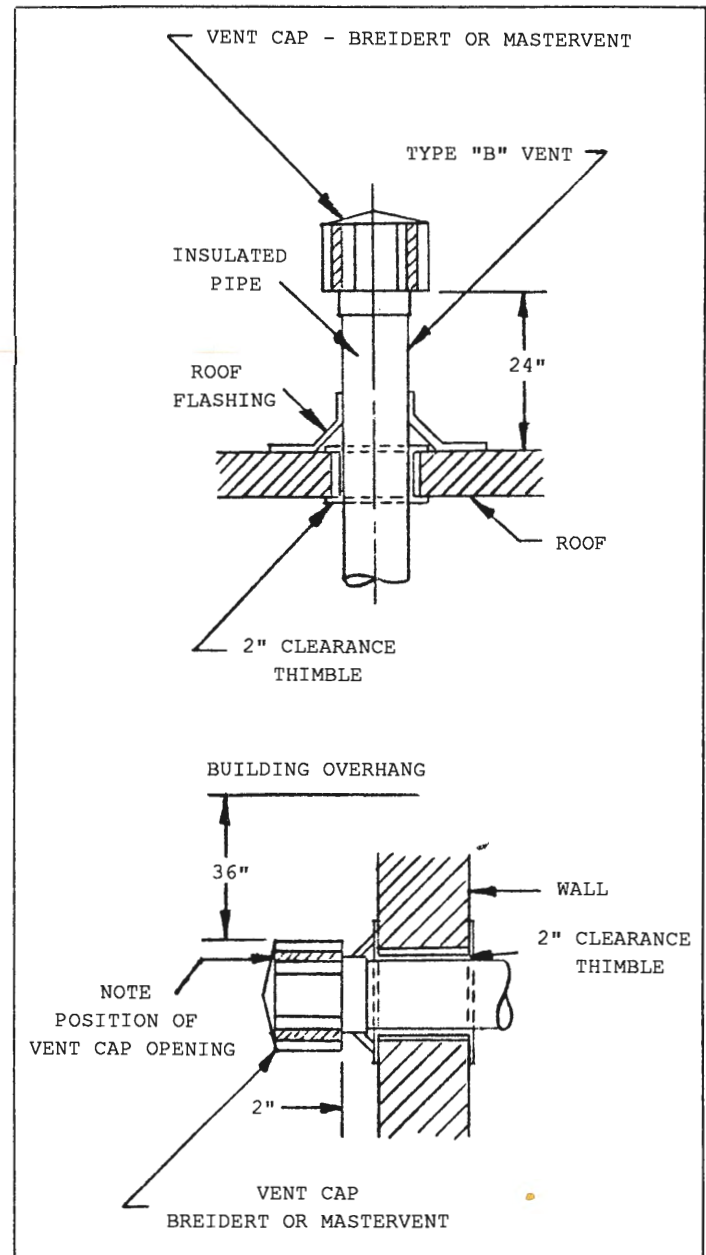

Figure 2-16
4. Stacks may exit the building either horizontally or vertically. Vertical venting exiting the roof should be 2 ft. above the eave of the roof. For horizontal venting, flue should be 2 in. from the sidewall. Care should be exercised to assure that vent opening is beyond any combustible overhang (See Figure 2-16).